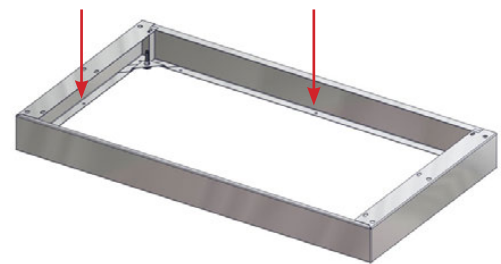

Fig. 3: Secure Base to Floor
3. It is recommended that the cabinet be further stabilized by attaching the base to the floor via holes in the bottom of the cabinet base (Hardware not provided) (Fig. 3).